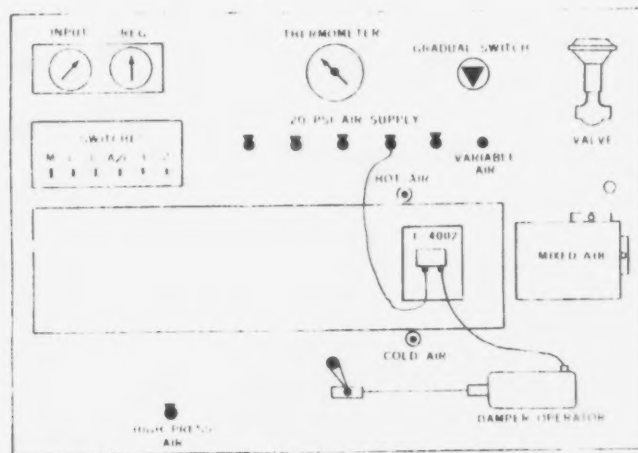

Figure 1
3. Using a T-4002 thermostat, and a refrigeration controls trainer, connect lines as shown in Fig. 1.